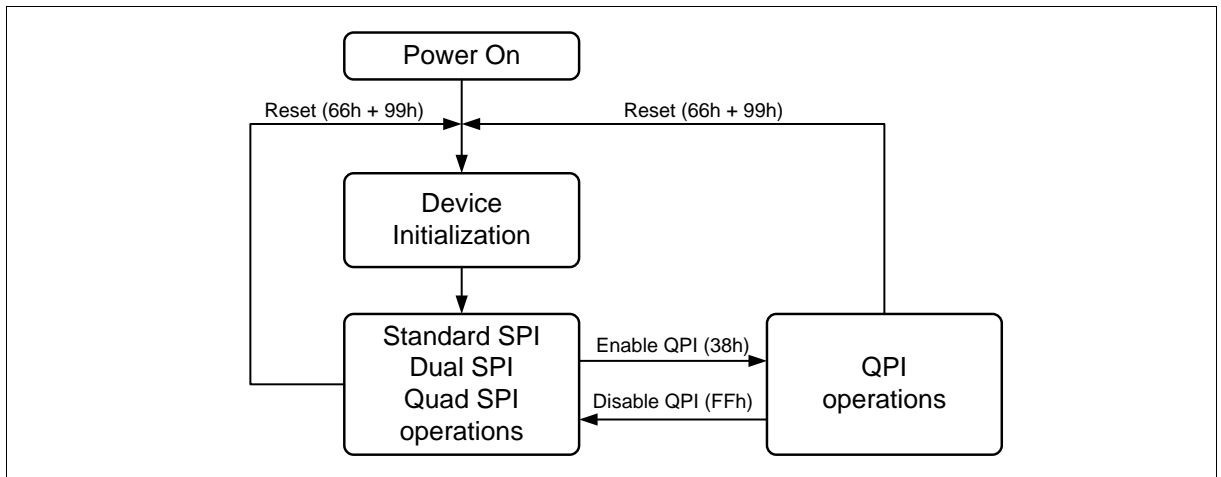

Figure 2 FM25W02 Serial Flash Memory Operation Diagram
The FM25W02 supports Quad Peripheral Interface (QPI) operations only when the device is switched from Standard/Dual/Quad SPI mode to QPI mode using the “Enable QPI (38h)” instruction. The typical SPI protocol requires that the byte-long instruction code being shifted into the device only via DI pin in eight serial clocks. The QPI mode utilizes all four DQ pins to input the instruction code, thus only two serial clocks are required. This can significantly reduce the SPI instruction overhead and improve system performance in an XIP environment. Standard/Dual/Quad SPI mode and QPI mode are exclusive. Only one mode can be active at any given time. “Enable QPI (38h)” and “Disable QPI (FFh)” instructions are used to switch between these two modes. Upon power-up or after a software reset using “Reset (99h)” instruction, the default state of the device is Standard/Dual/Quad SPI mode. To enable QPI mode, the non-volatile Quad Enable bit (QE) in Status Register-2 is required to be set. When using QPI instructions, the DI and DO pins become bidirectional DQ_0 and DQ_1 , and the WP# and HOLD# pins become DQ_2 and DQ_3 respectively. See Figure 2 for the device operation modes.